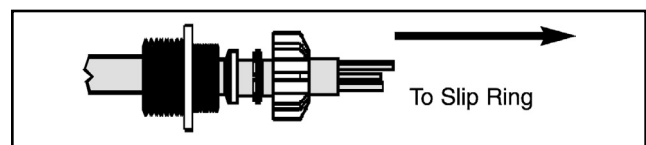

Figure 15-2
2. Secure the watertight connector. Jacketed cable should intrude 4-5 inches into the drum. Smaller watertights are secured using a Bridgeport sealing nut. See **Figure 15-2**.